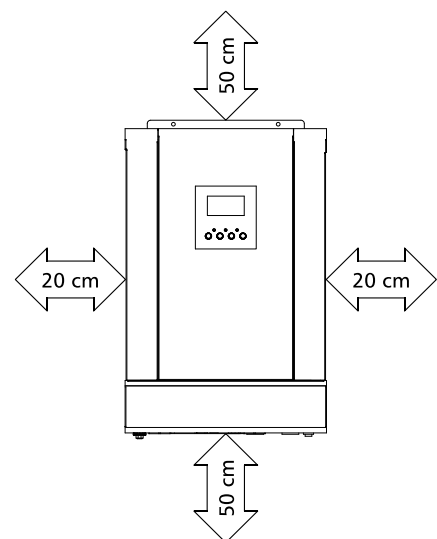

Figure 4: Minimum distance to walls and other objects
- Be sure to keep other objects and surfaces at least as far from the installed inverter as shown to the right in *Figure 4* to guarantee sufficient heat dissipation and to have enough space for removing wires